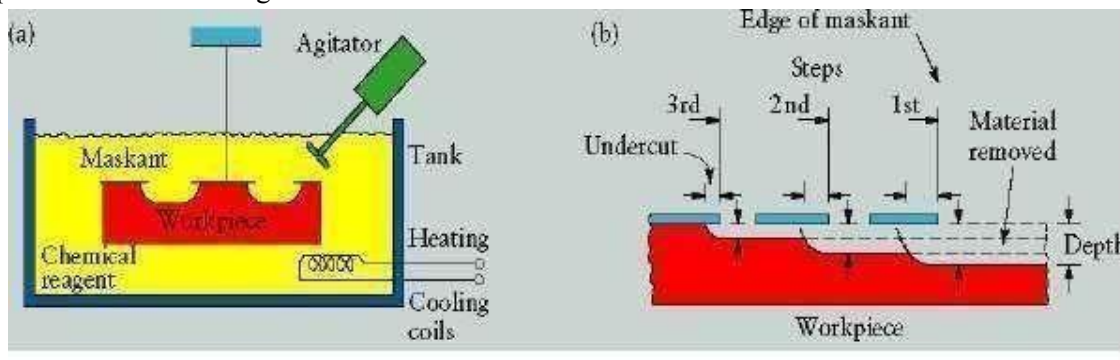

Figure 6: (a) Schematic of chemical machining process (b) Stages in producing a profiled cavity by chemical machining (Kalpakjain & Schmid)
Chemical machining (CM) is the controlled dissolution of work piece material (etching) by means of a strong chemical reagent (etchant). In CM material is removed from selected areas of work piece by immersing it in a chemical reagents or etchants; such as acids and alkaline solutions. Material is removed by microscopic electrochemical cell action, as occurs in corrosion or chemical dissolution of a metal. This controlled chemical dissolution will simultaneously etch all exposed surfaces even though the penetration rates of the material removal may be only 0.0025–0.1 mm/min. The basic process takes many forms: chemical milling of pockets, contours, overall metal removal, chemical blanking for etching through thin sheets; photochemical machining (pcm) for etching by using of photosensitive resists in microelectronics; chemical or electrochemical polishing where weak chemical reagents are used (sometimes with remote electric assist) for polishing or deburring and chemical jet machining where a single chemically active jet is used. A schematic of chemical machining process is shown in Figure 6.